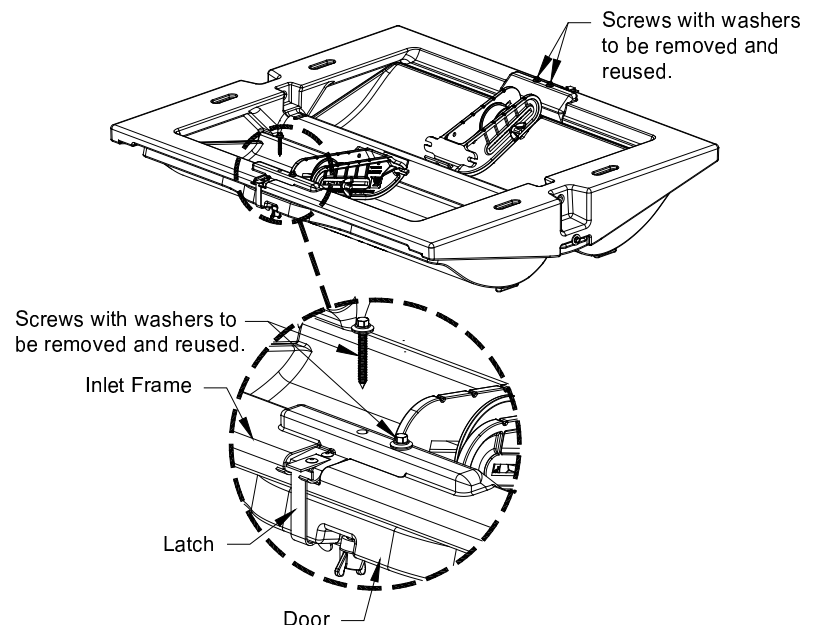

Figure 2
The Spring Counterweight Assemblies and other hardware will already be assembled as shown in Figure 2. The Lift Line should be turned towards actuator and Eye Bolt will be away from actuator.
The doors will be held closed with the latch. Keep doors latched and remove the (4) screws shown. While removing these screws make sure the washer comes off the inlet and stays with the screw. These screws will be used in Step 3. See Figure 2.